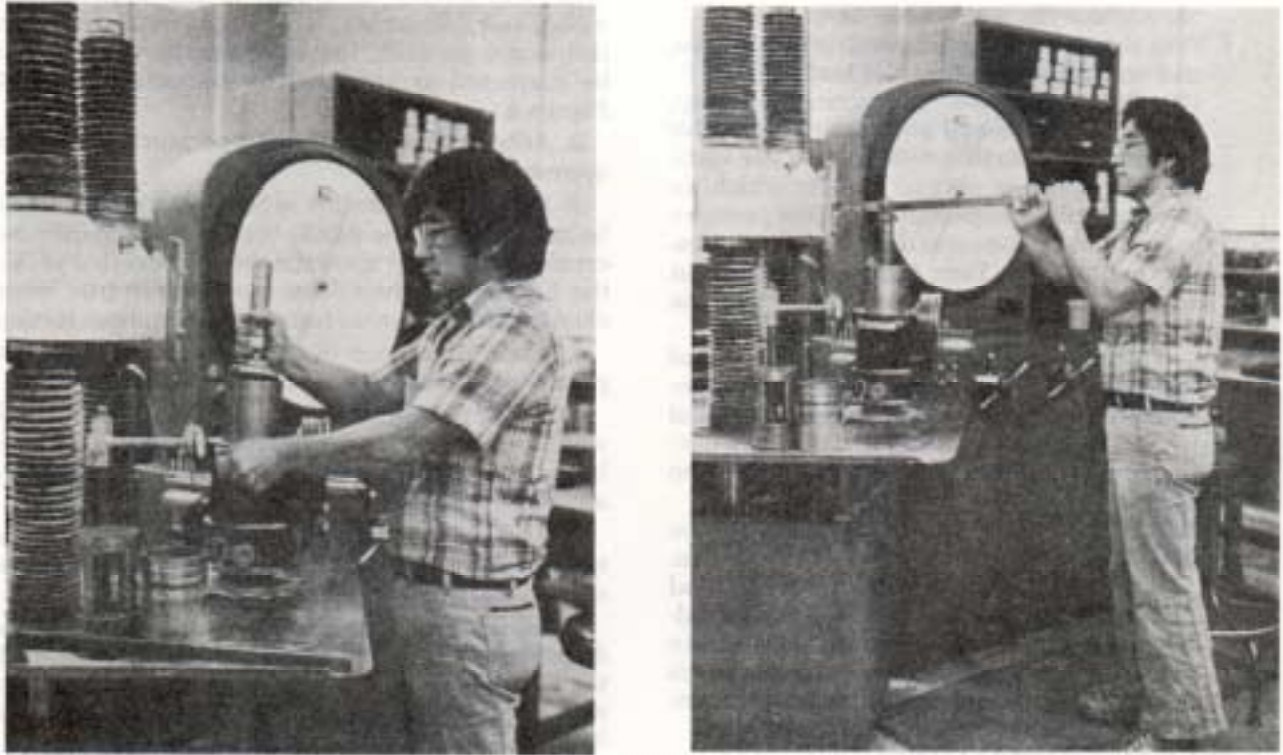

FIGURE 2
- c. Transfer the test specimen from the mold to the Stabilometer by placing the mold containing the specimen on top of the Stabilometer; then, using the plunger, hand lever, and special fulcrum attached to the testing machine, force the specimen out of the mold into the Stabilometer. Make sure that the specimen goes into the Stabilometer straight, with the tamped end up, and is firmly seated level on the base. This operation is shown in Figure 2.